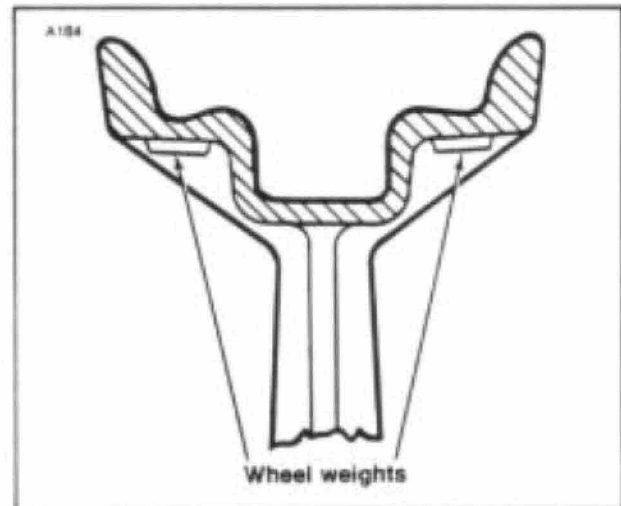

Figure 1. Wheel Weight Positions
1. See Figure 1. Self adhesive wheel weights should be mounted on flat surface of rim. Make sure that area of attachment is clean, dry and free of oil and grease.